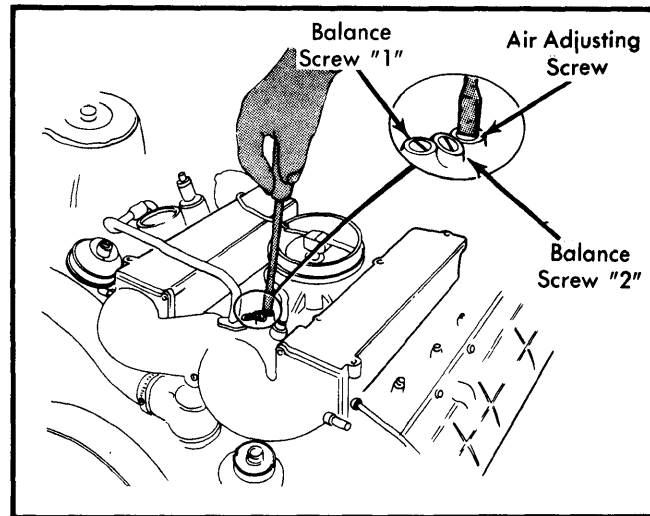

Fig. 3 Idle and Mixture Adjusting Screws
2) Remove plugs at front exhaust pipes (1 for each cylinder bank), then insert probe from CO meter dual probe adapter (9995151) into each pipe. Check idle speed RPM. If necessary, adjust idle speed with air adjusting screw. See Fig. 3.
6) Turn all balance screws to bottom position. Unscrew balance screw "1" (5 turns) and balance screw "2" (1 turn). See Fig. 3.
7) Turn dual probe adapter valve toward left cylinder bank and check CO level. If left bank CO level is not within specifications, correct by adjusting balance screw "2". See Fig. 3.
8) Next, turn valve towards right bank and check CO level. If right bank CO level is not within specifications, correct by adjusting balance screw "1". See Fig. 3.